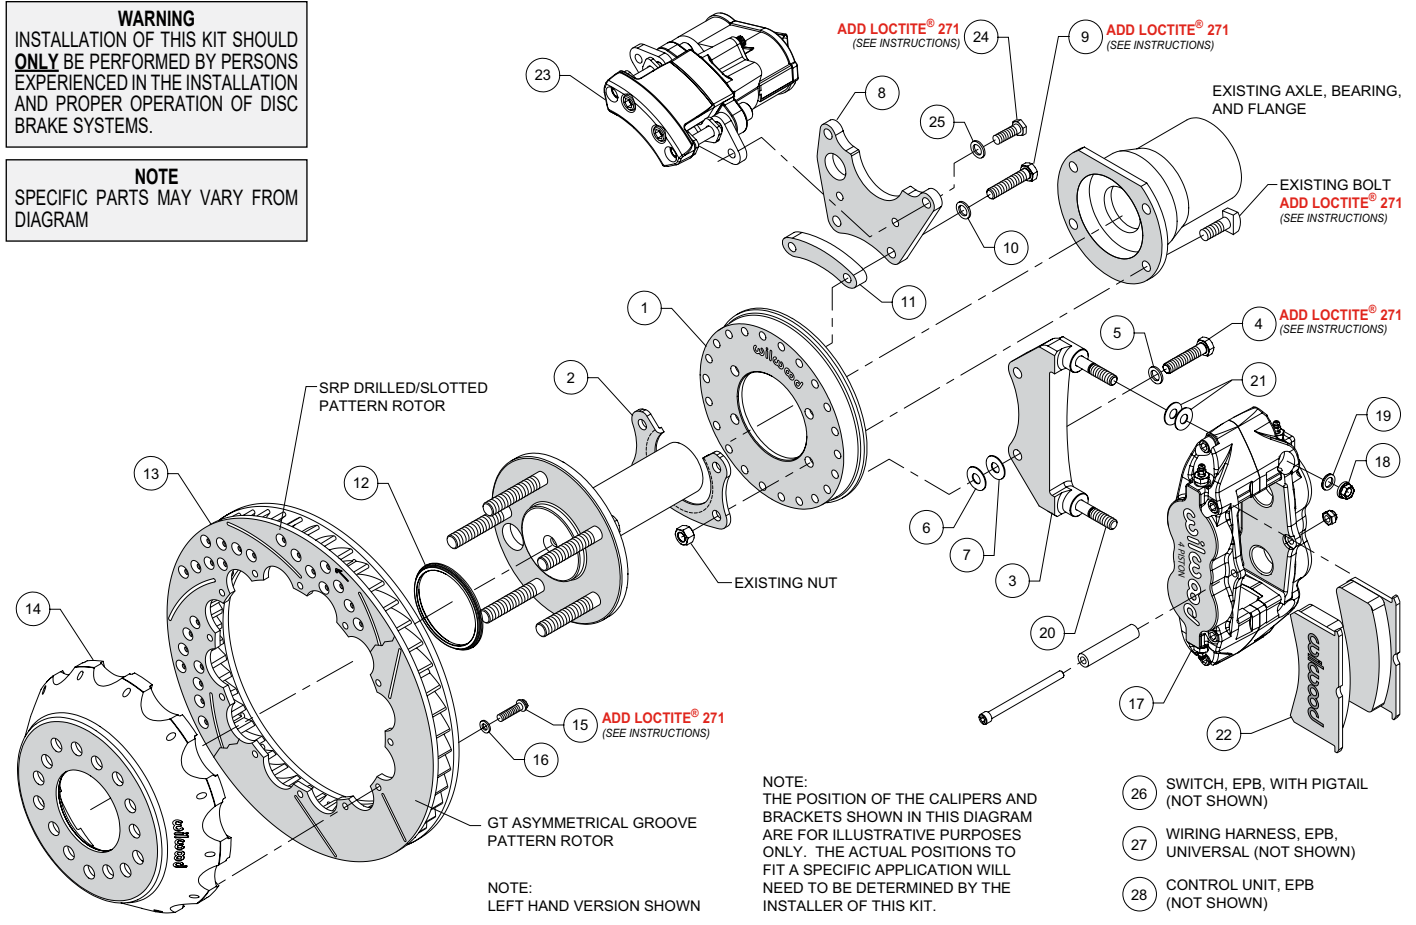
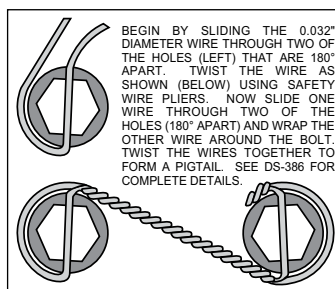

Figure 1. Typical Installation Configuration
Figure 5. Safety Wire Diagram
**NOTE:** Numbers in parenthesis refer to the parts list and Figure 1 on the preceding pages.
- Orient the backing plate (1) as shown in Figure 1 and Photo 1, and slide it onto the axle housing flange. Ensure the backing plate fits flush against the axle housing flange. Reinstall the axle into the axle housing.
- Install the bearing retainer (2) with the opening pointing upward and the lip facing inward (toward the bearing), as shown in Figures 1 and 4, and Photo 2. Secure retainer and backing plate to the axle housing flange using the Original Equipment Manufacturer (OEM) bolts and nuts, Figure 1 and Photo 3. Apply red *Loctite*® 271 to the OEM bolt threads and torque to OEM specifications.
- Start by determining the best location for the service caliper (17). This caliper is usually mounted in the 3:00 or 9:00 o'clock position, but may be rotated up or down approximately 45 degrees and still allow for proper bleeding, Photo 4. Orient the service caliper bracket (3) as shown in Figure 1 and Photo 5, and install to the backing plate (1) in the desired location using bolts (4) and washers (5). Temporarily tighten bolts. Next, mount the service caliper onto the bracket. Mount the service caliper using lock nuts (18) and washers (19), Figure 1. Temporarily tighten the lock nuts. Check that the caliper (including inlet fitting and hose) has sufficient clearance to all surrounding components through the full suspension travel. Relocate the caliper/bracket on the backing plate as needed to ensure proper clearance is achieved.
- Determine the best location for the EPB caliper (23). **NOTE:** *The EPB caliper motor extends farther inboard than the service caliper and therefore needs additional consideration when determining a mounting location with sufficient clearance.* In the example application shown in Photo 6, the EPB caliper has sufficient inboard clearance to the leaf spring. However, if the EPB caliper were mounted closer to the 12:00 o'clock position, the inner body of the vehicle would hit the caliper during full compression of the suspension.
•Orient the EPB caliper bracket (8) as shown in Figure 1 and Photo 7, and install to the backing plate (1) in the desired location using bolts (9), washers (10), and spacer (11). Temporarily tighten bolts. **NOTE:** The EPB bracket is reversible. In one direction the bracket will position the EPB caliper closer to the service caliper, and vice versa if reversing the bracket. Next, mount the EPB caliper (23) to the bracket using bolts (24) and washers (25). Temporarily tighten bolts. **NOTE:** EPB calipers are Left and Right handed, however they can be used on either side of the vehicle to best suit your specific application. Check that the EPB caliper (including wiring harness connector) has sufficient clearance to all surrounding components through the full suspension travel. Relocate the EPB caliper/bracket on the backing plate as needed to ensure proper clearance is achieved.
•Once the caliper positions have been determined, remove both the service (17) and EPB (23) calipers, leaving both brackets in place on the backing plate. For the EPB bracket, remove the bolts one at a time, apply red *Loctite*® 271 to the threads, and torque to 35 ft-lb. The service caliper bracket will be final installed after shimming is determined.
•Orient the rotor (13) and the hat (14) as shown in Figure 1 and Photo 8. Attach rotor to hat using bolts (15) and washers (16). Apply red *Loctite*® 271 to the bolt threads and torque to 155 **in-lb** using a criss-cross pattern. For an added measure of security, the bolts may be safety wired using standard 0.032 inch diameter stainless steel safety wire as shown in Figure 5. Please refer to Wilwood's data sheet DS-386 (available at [www.wilwood.com/Pdf/DataSheets/ds386.pdf](http://www.wilwood.com/Pdf/DataSheets/ds386.pdf)) for complete safety wire installation instructions.
•Initially place two .035" thick shims (21) on each stud of the service caliper bracket (3), as shown in Figure 1 and Photo 10. Mount the caliper onto the bracket using lock nuts (18) and washers (19), Figure 1. Temporarily tighten the lock nuts and view the rotor through the top opening of the caliper. The rotor should be centered in the caliper, Photo 11. If not, adjust by adding or subtracting shims (6 and/or 7) between the service caliper bracket (3) and the backing plate (1). Always use the same amount of shims on each of the two mounting bolts. Once the caliper alignment is correct, remove the bracket mounting bolts (4) one at a time, apply red *Loctite*® 271 to the threads, and torque bolts to 35 ft-lb.
- Mount the EPB caliper (23) onto the caliper mounting bracket (8) using bolts (24) and washers (25), Figure 1. Apply red *Loctite*® 271 to bolt threads, and torque to 30 ft-lb.
• **NOTE:** The service caliper (17) in this brake kit utilizes a 1/8-27 NPT pipe thread inlet. OEM rubber brake hoses generally cannot be adapted to Wilwood calipers. The preferred method is to use steel adapter fittings at the caliper, either straight, 45 or 90 degree (use PTFE tape on pipe threads of adapter fitting for proper sealing to caliper) and enough steel braided line to allow for full suspension travel. **Carefully route hoses to prevent contact with moving suspension, brake or wheel components.** **NOTE:** Wilwood hose kits are designed for use in many different vehicle applications and it is the installer's responsibility to properly route and ensure adequate clearance and retention for brake hose components. Wilwood offers universal brake flex line hose kits, domestic (3/8-24 IF) chassis fittings, order: